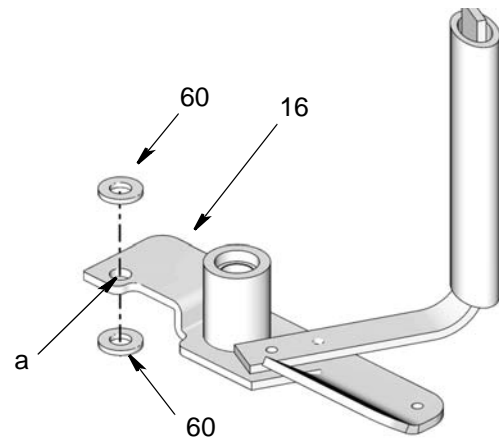

FIG. 8
- a. Align washers (60), with hole (a) in the base of the stirring paddle (16). One washer should be on the top of the hole and one on the bottom (underside) as shown in FIG. 8.